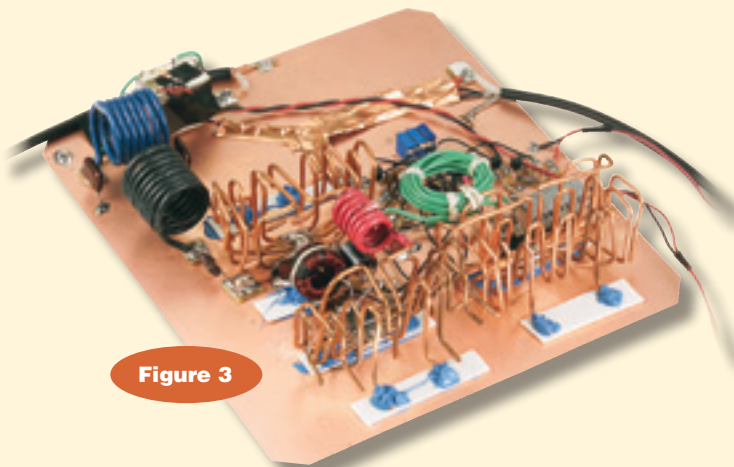

Figure 3
Instead of meeting that head-on, as Don did, Dave went to the more efficient class E as the basis of his amplifier. Since class E is not inherently linear, Dave traded the heatsink cost against the additional circuitry required to linearize its operation. The resulting amplifier was able to meet its linearity and the key down operation specs using just some bits of house wire as a heat sink. In addition to its minimal requirements, Dave's amplifier included carrier sense transmit-receive (TR) switching to operate with his MFJ Cub that doesn't have TR contacts. Dave's amplifier will also be described in a forthcoming issue of *QST* (see Figure 3).